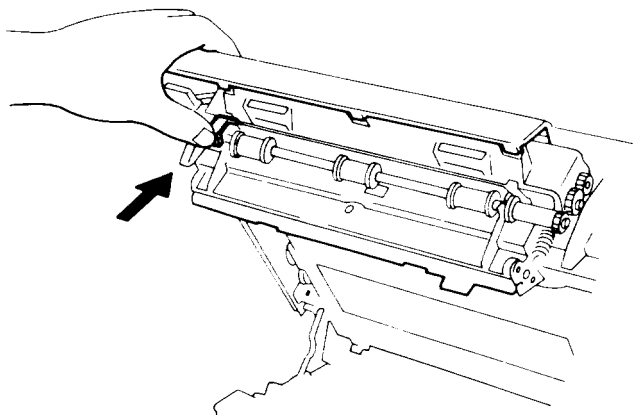

Figure 2-8 Unlocking the cleaning pad compartment
- a. With the top cover open, push up the lock lever of the heat roller housing. The lever is located at the left front of the top cover (see Figure 2-8).